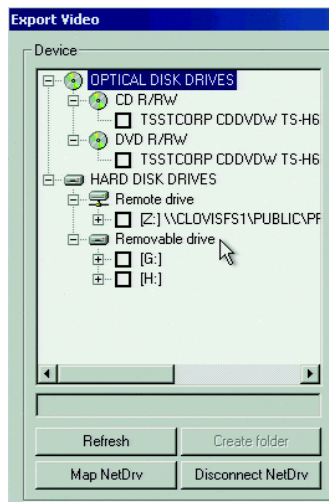

Figure 2. Export Video Dialog Box
2. Click the Export Button . The Export Video dialog box opens (refer to Figure 2).